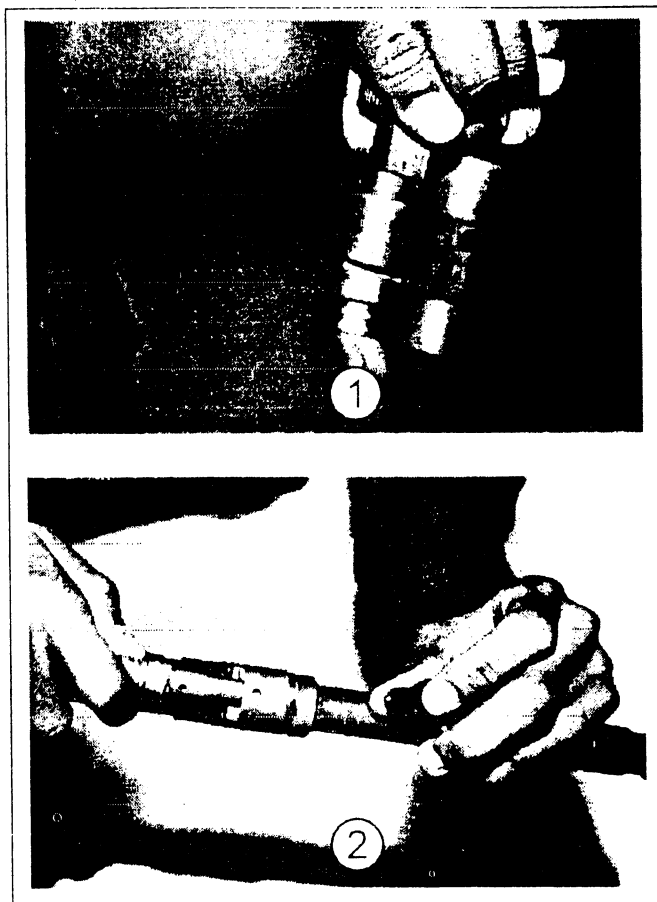

Fig 1-18. Removing the collar and gas plug.
(1) Detailed disassembly (see fig 1-18)
- (b) Grasp and rotate the collar clockwise until it releases from the gas plug ①.
- (c) Remove the collar from the gas plug ②.
- (d) Slide the gas plug to the rear and out of the gas regulator ②.